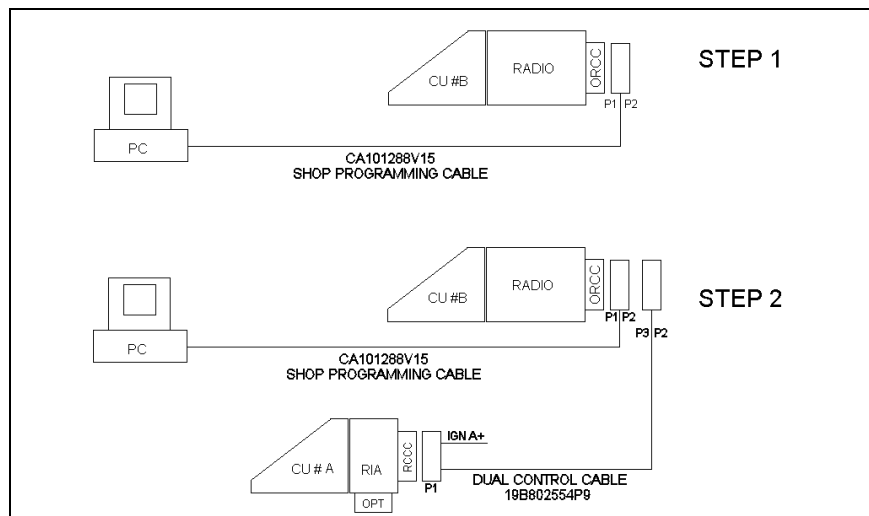

Figure 22 – M7100^{IP} Dual Control Unit PC Programming Configuration
- 1. Configure the M7100^{IP} Front Mount Radio with ProGrammer Assembly, as shown in Figure 22, Step 1. Program the radio with the following control configurations:
- 2. Now configure the Front Mount Radio and the Auxiliary Control Unit together with ProGrammer, as shown in Figure 22, Step 2. Program this configuration with the following files: